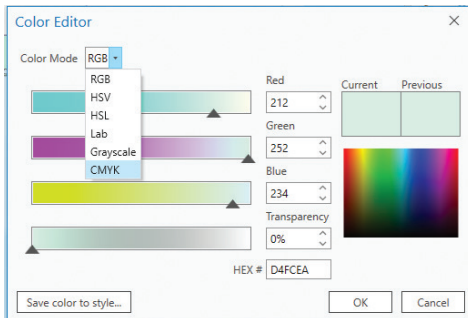

Figure 4. The Esri Color Editor showing the color mode selector options.
Of course, I could just choose another fill color (and/or pattern) from in the Symbology menu (Figure 3) by clicking on the color arrow and selecting a color from the palette. Alternatively, opening the color palette and using the “Color Properties” opens the Color Editor to allow you to make a custom color (Figure 4).
Selecting the “Color Properties” activates the Color Editor as in Figure 4. Once the Color Properties dialog box is activated:
1. Use the Color Mode selector to select the color description method (Figure 4). Esri offers six descriptors (RGB, HSV, HSL [Hue, Saturation, Lightness], Lab [Lightness and two channels for Color; A and B] Grayscale, and CMYK). For this example, I chose CMYK.